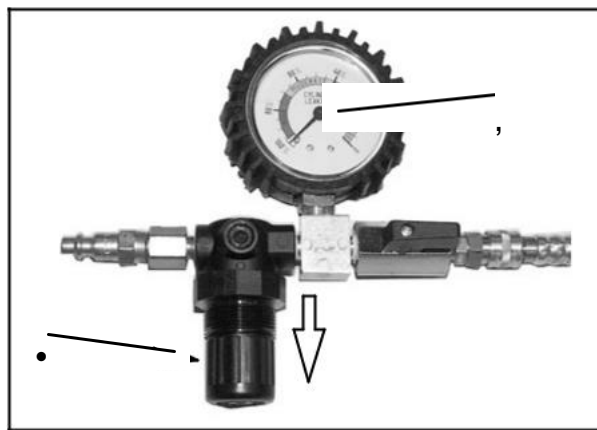

Fig. 4
While securely holding the flywheel nut with the breaker bar and socket, pull the adjustment knob OUT (arrow), **Fig. 4**. Slowly turn the regulator adjustment knob (1) CLOCKWISE until tester needle (2) is on the set point. Push in regulator adjustment knob.